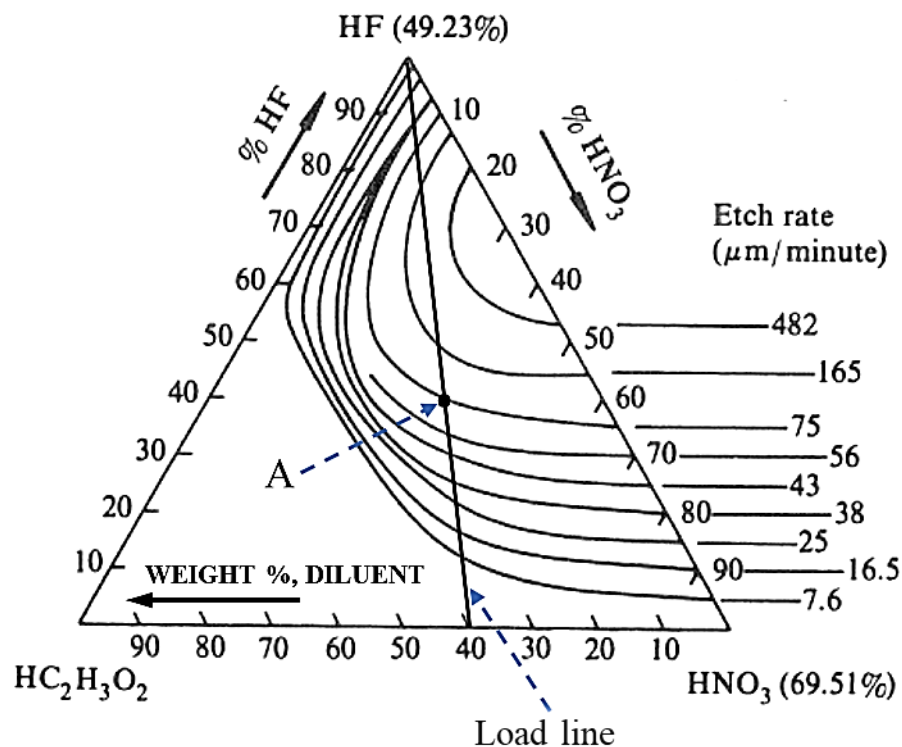

Figure 2: Isoetch curve for silicon
- (c) Figure 2 on Page 3 shows the isoetch curve for silicon using the HF:HNO₃:CH₃COOH etchant.